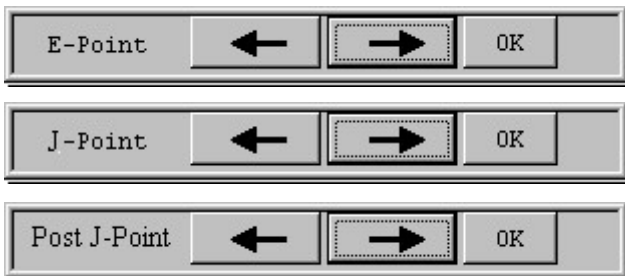

Fig 4.9
- Press '**E-point**' button to change the position of E-point to left or right press the '<- ' or '->' button as shown in fig 4.9 respectively. Similarly press J-point and Post J-point button to change the position of J-point and post J-point respectively.